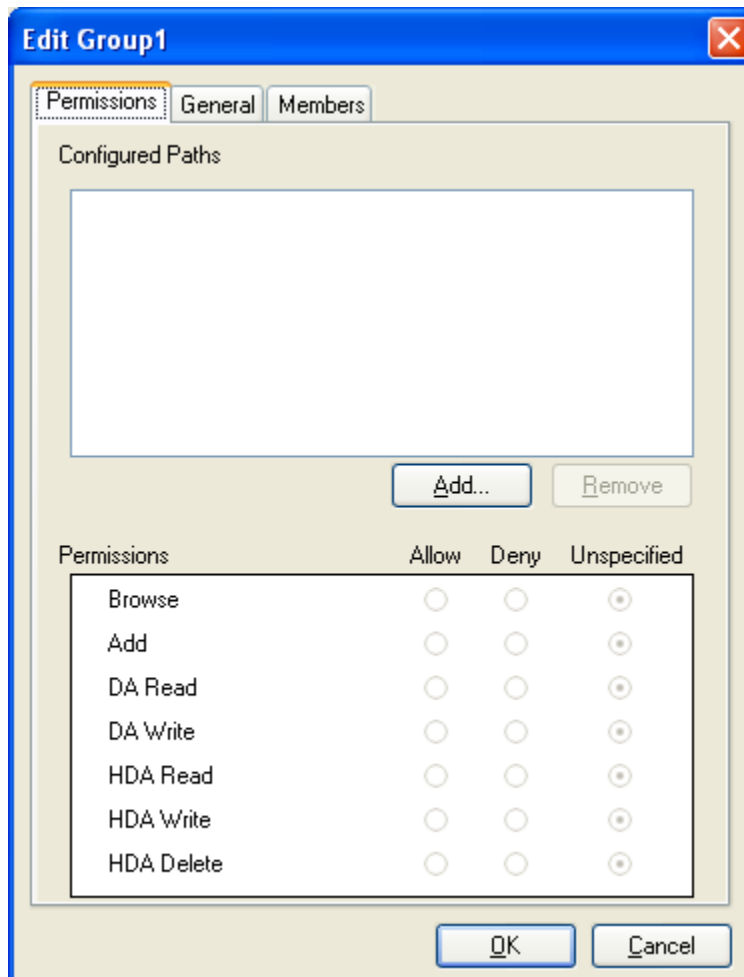

Figure 72 - Edit <Groupname> Window (Permissions Tab)
- The **Edit <Groupname>** window (Figure 72) appears (for NT Groups, there is only the **Permissions** tab). Follow the instructions in the **Edit Group** section for adding permissions.
6. The **Edit <Groupname>** window (Figure 72) appears. Follow the instructions in the **Edit Group** section for adding permissions.
- The **Edit <Groupname>** window (Figure 72) appears.